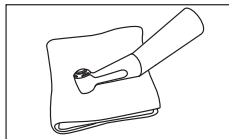

Fig. 12
- 4) Wipe the exterior of the handpiece, and clean using a cloth moistened with disinfectant or ethanol with a concentration of 60-90%. (Fig. 12)